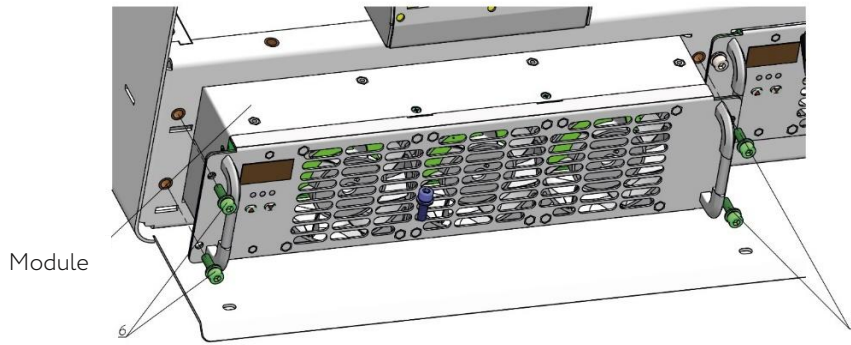

Figure 5.10 Installation location of the module in the station (6 – M5 screw)
3. Install the module into the station frame (Fig. 5.10). It is better to install the modules together, smoothly from bottom to top, so that the module screen is located closer to the front of the device.
4. Secure with screws 6 (Fig. 5.10).